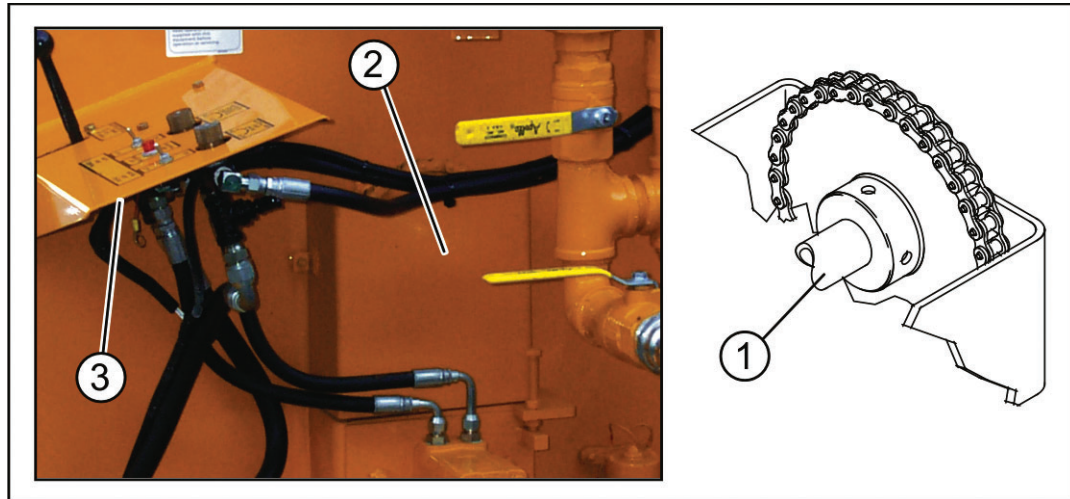

Figure 2-4
4. Set the agitator speed control valve (2, Figure 2-3) to between 18 and 22 revolutions per minute (RPMs) to maintain the product in suspension. You can determine the RPMs by counting the revolutions of the agitator shaft end attached to the large sprocket at the back of the tank (1, Figure 2-4). The shaft end and the sprocket are located inside the enclosure with the wire top (2, Figure 2-4) next to the control panel (3, Figure 2-4).